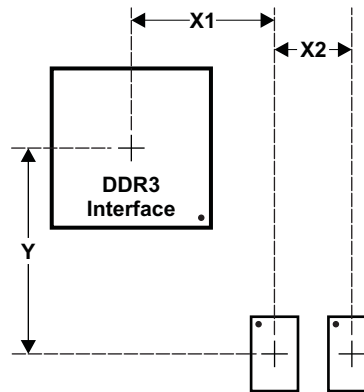

图 7-50. Placement Specifications
图 7-50 shows the required placement for the AM335x device as well as the DDR3 devices. The dimensions for this figure are defined in 表 7-63. The placement does not restrict the side of the PCB on which the devices are mounted. The ultimate purpose of the placement is to limit the maximum trace lengths and allow for proper routing space.
(1) DDR3 keepout region to encompass entire DDR3 routing area.
(2) For dimension definitions, see 图 7-50.
(3) Measurements from center of the AM335x device to center of the DDR3 device.
(4) Minimizing X1 and Y improves timing margins.
(5) w is defined as the signal trace width.
(6) Non-DDR3 signals allowed within DDR3 keepout region provided they are separated from DDR3 routing layers by a ground plane.